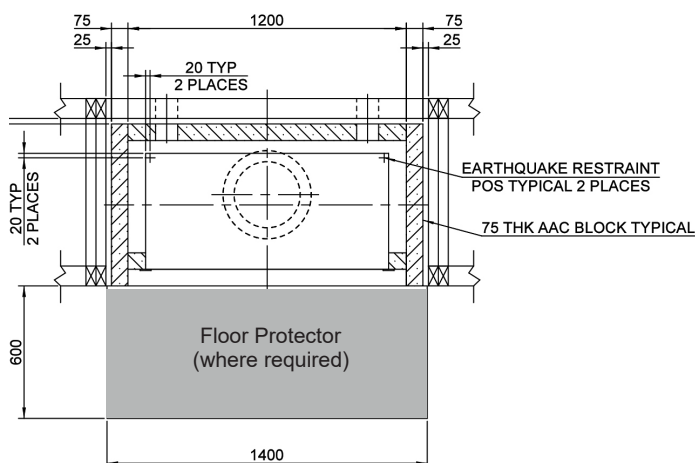

Fig 2.1
3. **The hearth/floor protector where located onto a combustible floor surface, must be made from 100mm concrete or 75mm AAC Block (preferred) and extend a minimum of 600mm in front of the firebox and 200mm to each side of the firebox opening.** Refer to Fig 2.1 The hearth/floor protector finished top surface should align to the same level as the lower front edge of the firebox fascia frame. Refer to Fig 2.2